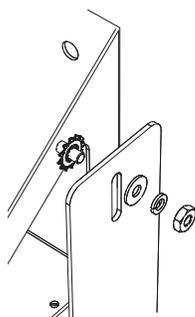

Fig. 19, SPI Hardware Stack Up
4. Install the service power inserter (SPI) to the SPI bracket and torque to 130 in-lb (14.5 Nm). Follow the proper stack up as shown in Fig. 19 and mount the SPI bracket onto either of the #10-32 studs  in Fig. 18, and tighten the supplied #10-32 nut, lock washer, and flat washer.